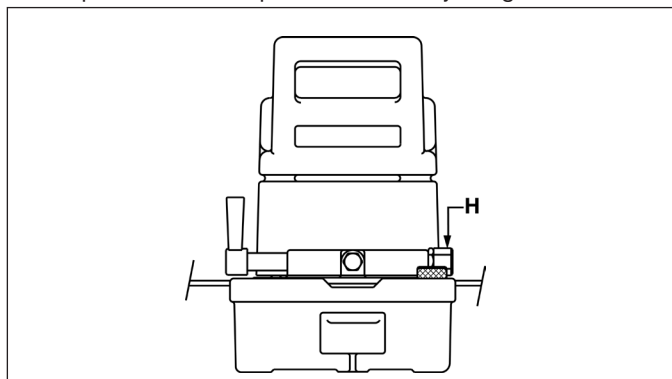

Figure 9
6.0 RELIEF VALVE ADJUSTMENT (Figure 9)